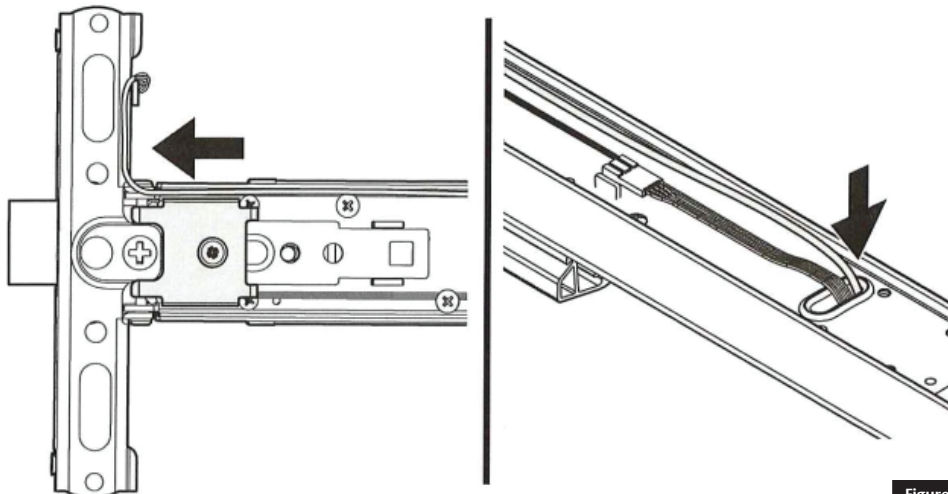

Figure 5 Routing the switch wire
- Route the switch wire around the wire protector and through the grommet in the carrier. See Figure 5.
- Route the switch wire around the wire protector & through the grommet in the carrier. See Figure 5 on the previous page.